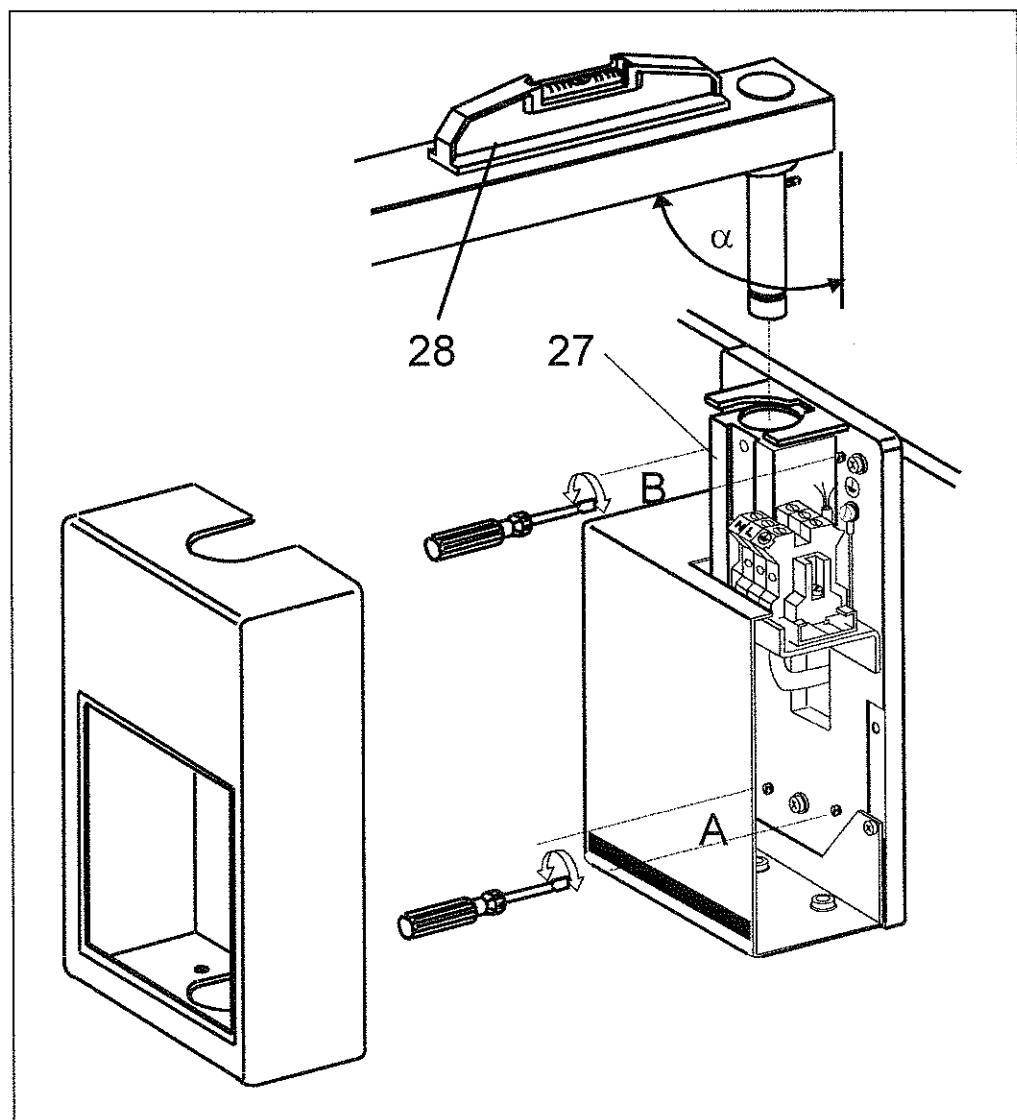

Figure 12 Arm levelling
- e) Fit Arm assembly with Extension to wall-plate by inserting pivot into housing "27" (Figure 12 on page 26).
Adjust as follows (please refer to Figure 12 on page 26):